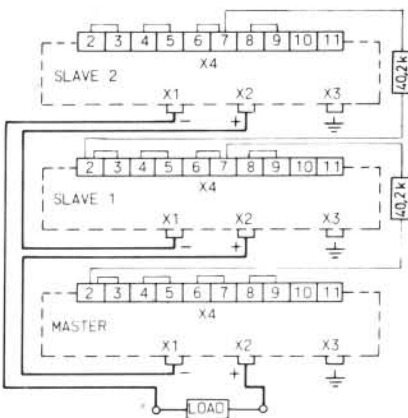

Fig. 8h. Series connection according to "Master-Slave" system
- b. By connecting in accordance with the Master-Slave system (see Fig. 8h.). The output voltage of every instrument is adjusted by means of R1 and R2 of the "master" instrument. The controls R1 and R2 of the "slave" instruments must be turned completely to the left. When R3 and R4 of the slave instruments are set at maximum output current, it is possible to adjust for maximum load current with R3 and R4 of the master instrument. For series connection in accordance with this system, a $40,5 \text{ k}\Omega$, 1 %, 0,1 W resistor must be added and terminal block X4 must be wired, as shown in Fig. 8h.